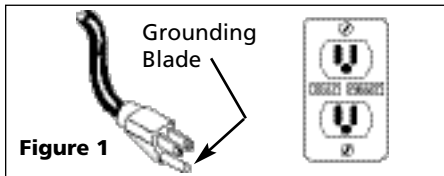

Figure 1
11. This equipment is only for use on 120 volt (single-phase) and is equipped with an approved 3-conductor cord and 3-prong, grounding-type plug as shown in Figure 1.